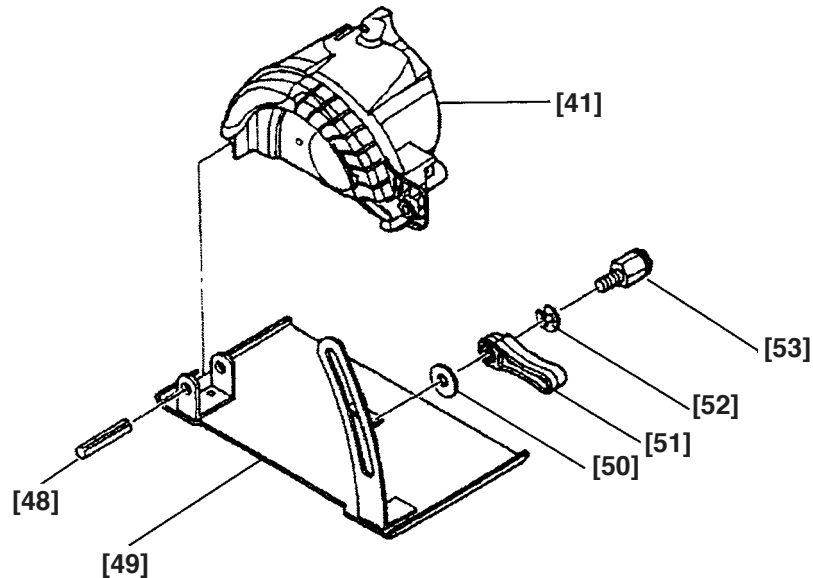

Fig. 3
(3) Disassembly of the base ass'y (Fig. 3)
- ① Remove the Retaining Ring (E-Type) For D8 Shaft [52] to remove the Link Lever [51]. Loosen the Special Bolt M6 [53] and remove the Washer M6 [50].
- ② Pull out the Roll Pin D6 x 36 [48] which connects the Gear Cover [41] and the Base [49].